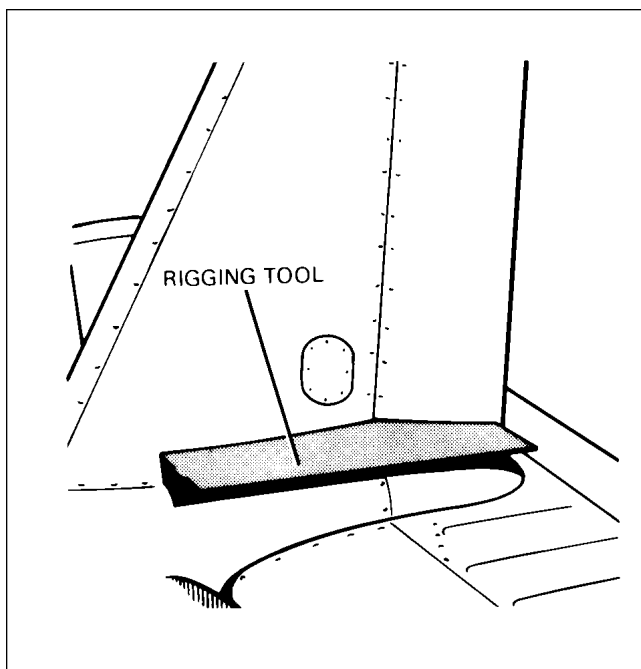
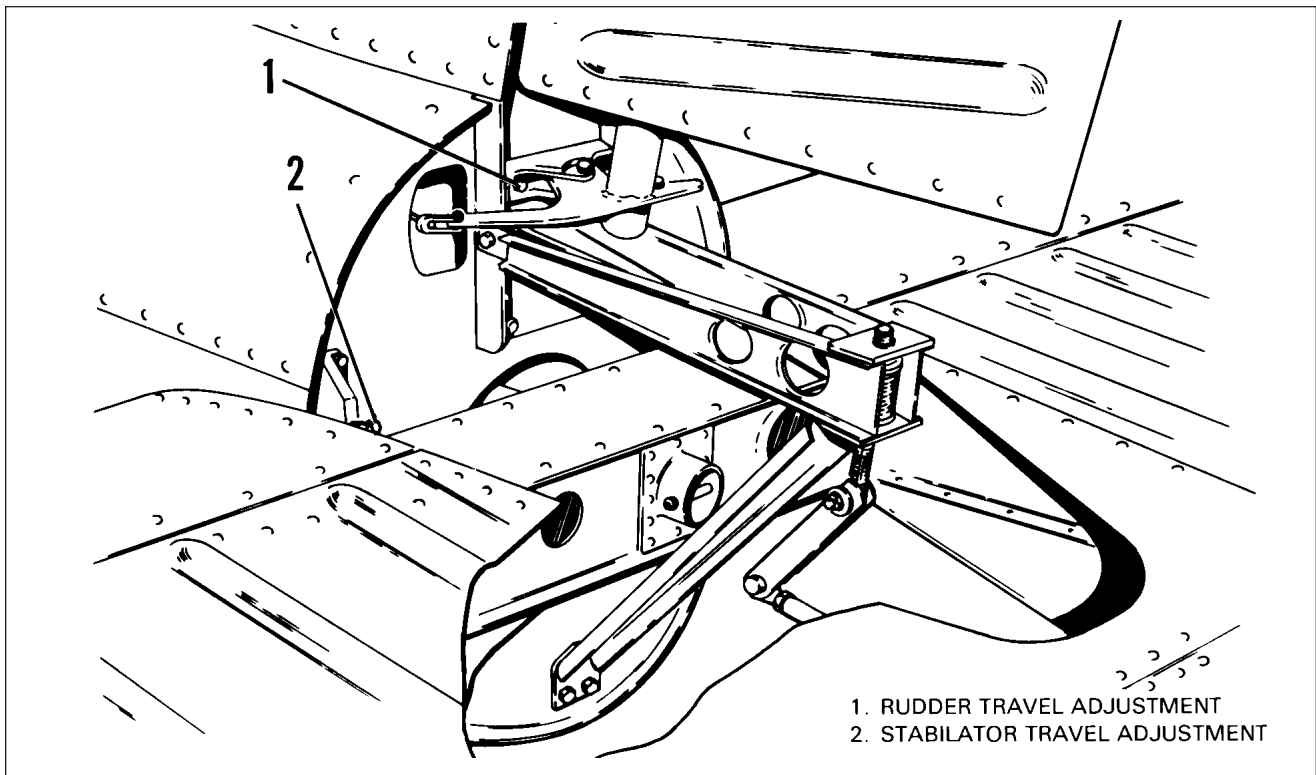
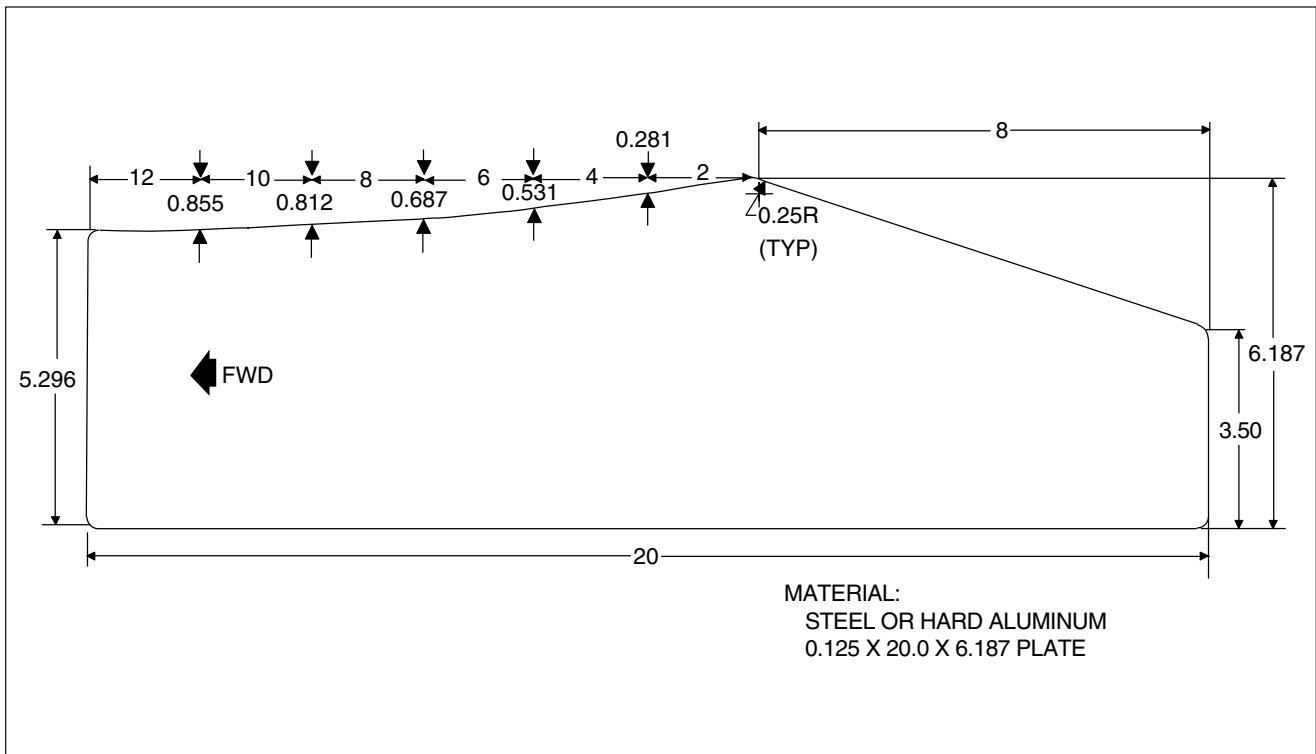

Figure 27-15. Rudder Rigging Tool
Figure 27-17. Rudder Rigging
Figure 27-18. Fabricated Rudder Rigging Tool
- b. With rudder against its stop, place rigging tool against the side of the rudder and vertical stabilizer as per Figure 27-15. (Make tool from dimensions given in Figure 27-18.) Check tool is not contacting rivets. If no gap exists between rigging tool and rudder surface, and vertical stabilizer, the rudder stop for one direction of travel is correct per Figure 27-17.